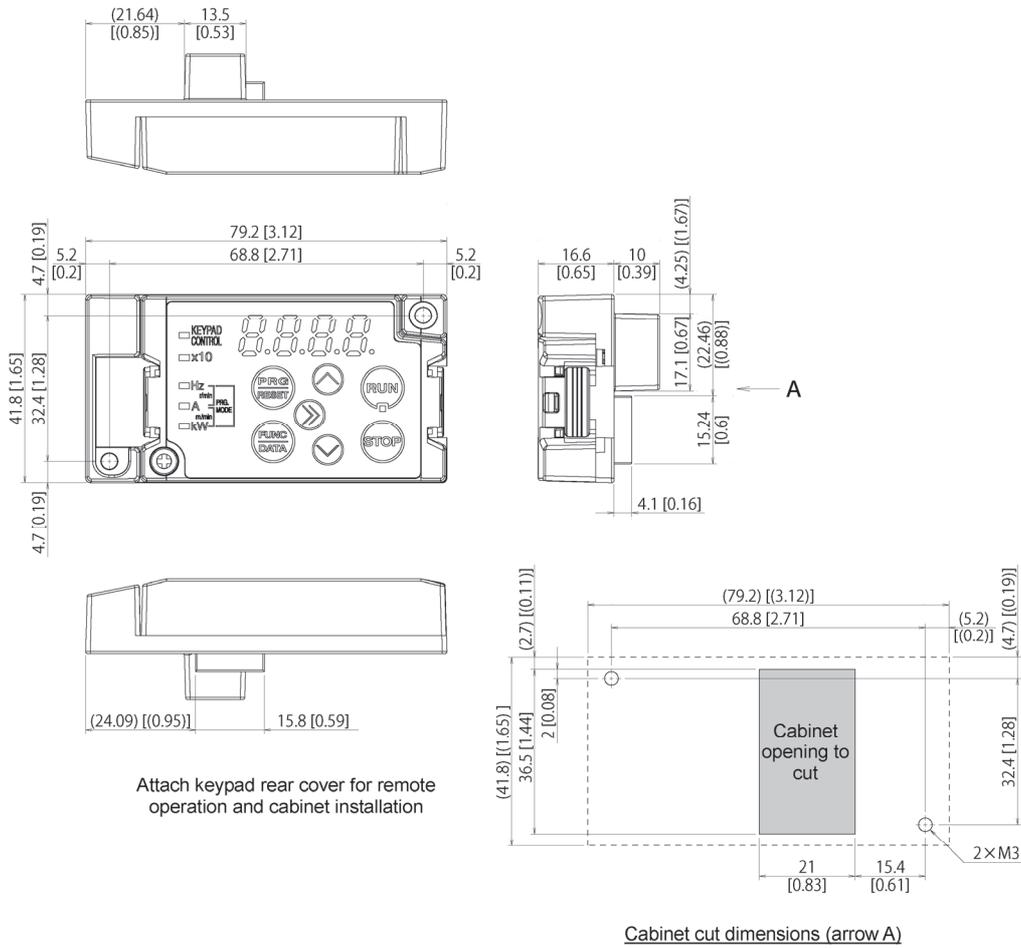

Figure 2.3-6 Fixing Screw Positions and the Dimensions of the Cabinet to Cut
(3) Cut the cabinet to attach the keypad, as shown in Figure 2.3-6.